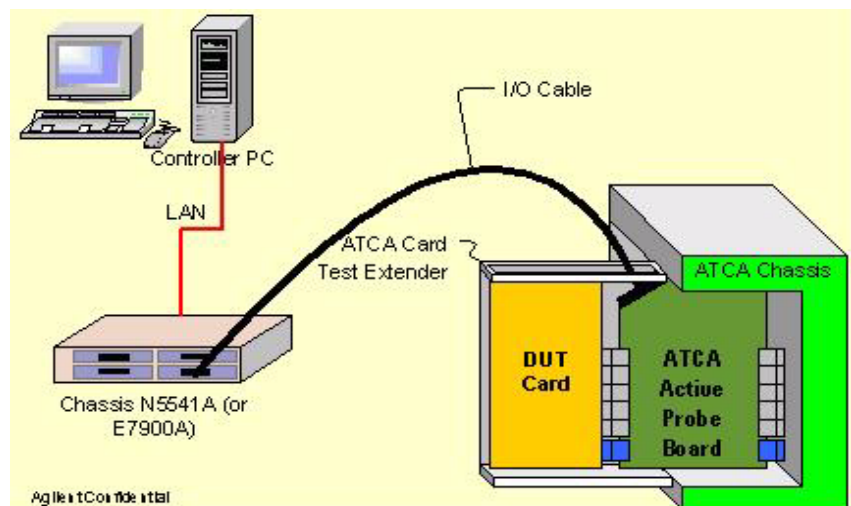

Figure 4 ASI Analyzer hardware setup model
- **ASI Analyzer:** Active or passive probe is used to monitor the traffic between DUT and ATCA chassis, or other DUTs in the same ATCA chassis (Figure 4).